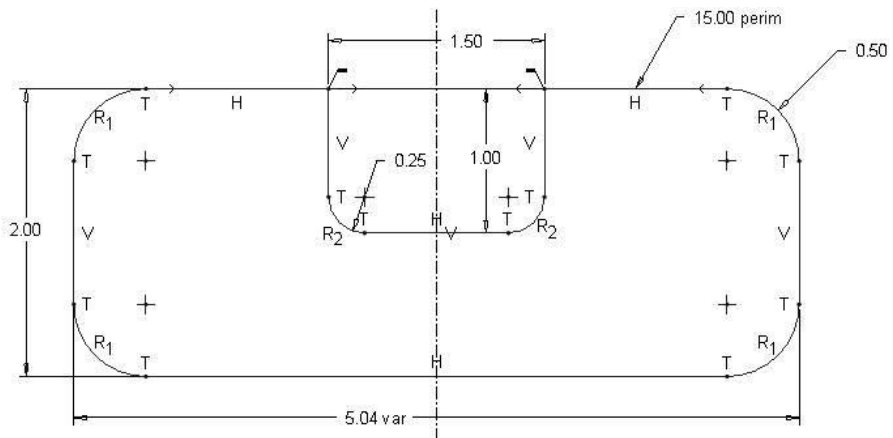

Figure 3-40 Perimeter Dimension Added
Step 46: Determine the circumference of this figure using . Remember to *pick* on **line segment** with the LMB, then hold down <CTRL> and pick the rest of the segments around the perimeter of the figure. *Pick OK*. Let the 4.00-inch dimension be the adjustable dimension. You should get a perimeter of 12.93 inches. What happens to the overall length of the figure if the perimeter is changed to 15 inches? Overall length becomes 5.04 inches. Can you verify this? See Figure 3-40.